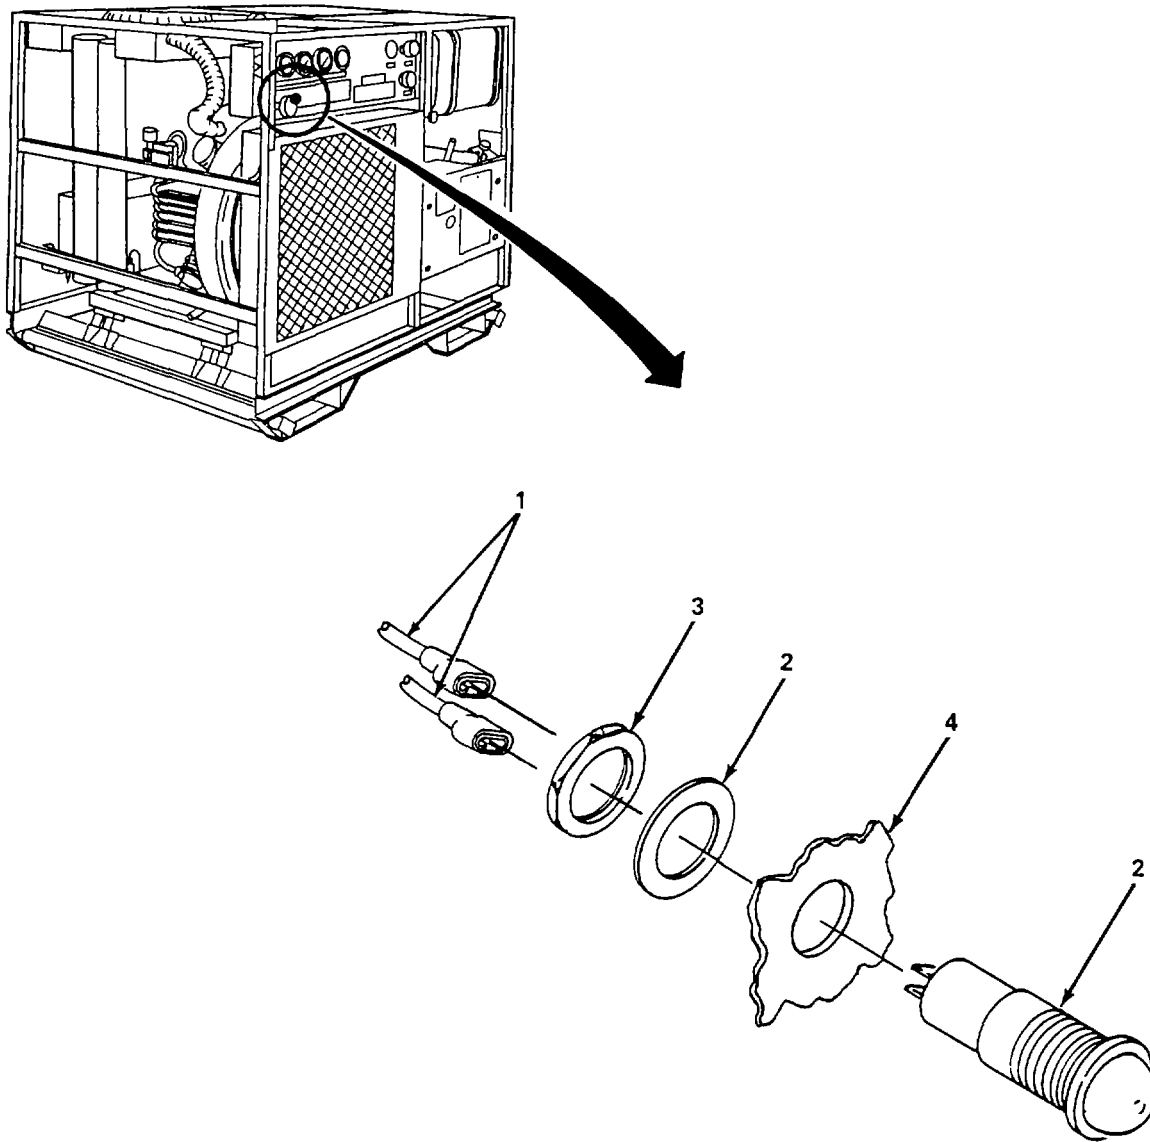

Figure 4-18. Indicator Light, Replace.
(9) *Indicator light.* (figure 4-18)
- (a) Tag and disconnect two wires (1) from indicator light (2).
- (b) Remove nut (3) and remove indicator light (2) from control panel (4).
- (c) Install indicator light (2) and secure with nut (3).
- (d) Connect two wires (1) on indicator light (2).